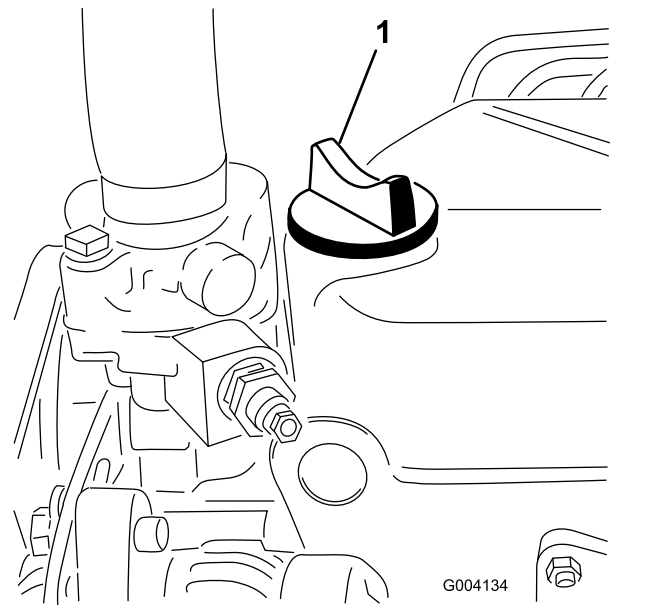

Figure 76
5. If the oil level is below the Full mark, remove the fill cap (Figure 76), and add oil until the level reaches the Full mark on dipstick.